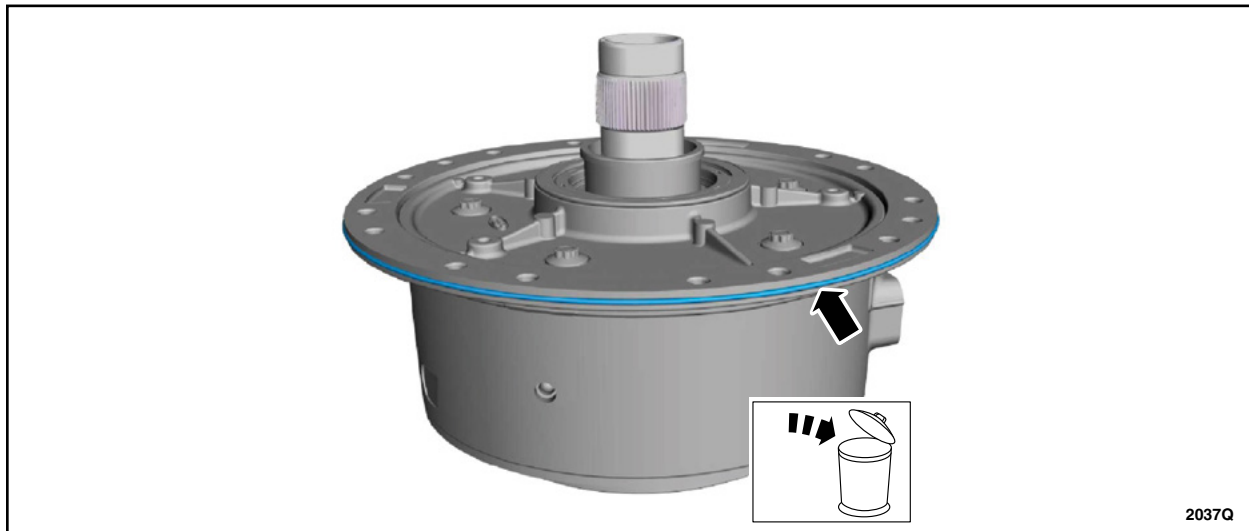

FIGURE 9
12. Remove and discard the front support-to-case seal. See Figure 9.